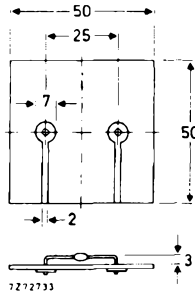

Fig. 2 Mounted on a printed-circuit board.
| $T_{amb} = 55\text{ }^\circ\text{C}$ ; Fig. 2   | $I_F(AV)$ | max. | 1,25         |        | A                |
2. Thermal resistance from junction to ambient when mounted on a 1,5 mm thick epoxy-glass printed-circuit board; Cu-thickness  $\geq 40\text{ }\mu\text{m}$ ; Fig. 2